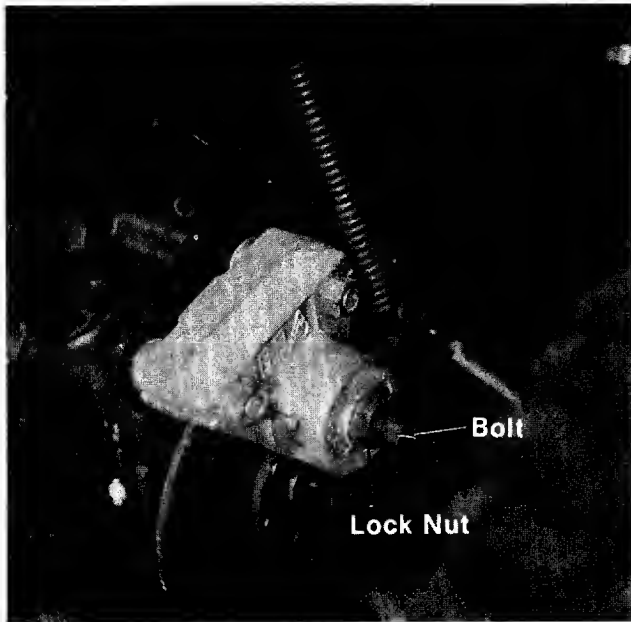

FIGURE 9.
1. Loosen the lock nut. See figure 9.